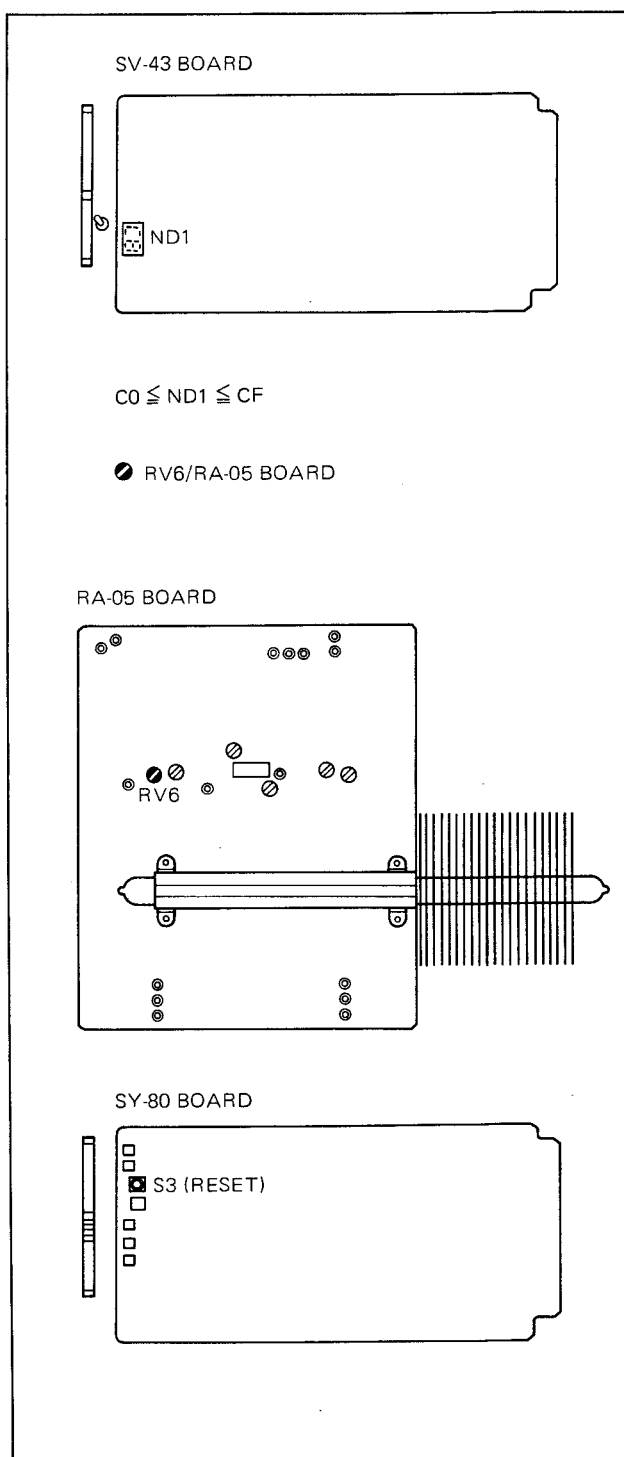

Fig. 6-13. T Reel Motor Torque Adjustment
- d. After motor stop, confirm that the number shown in Fig. 6-13 is indicated by the display element ND1 on the SV-43 board. If necessary, adjust RV6 on the RA-05 board.